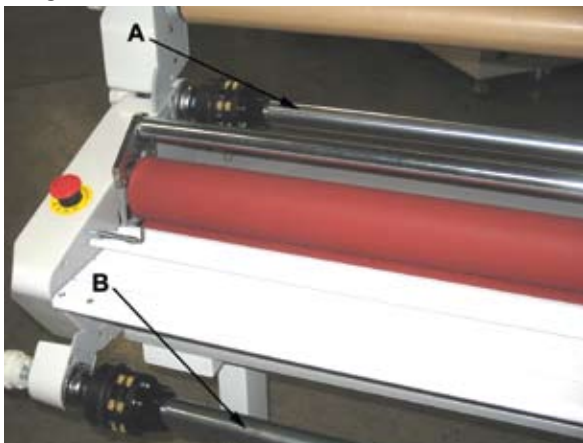
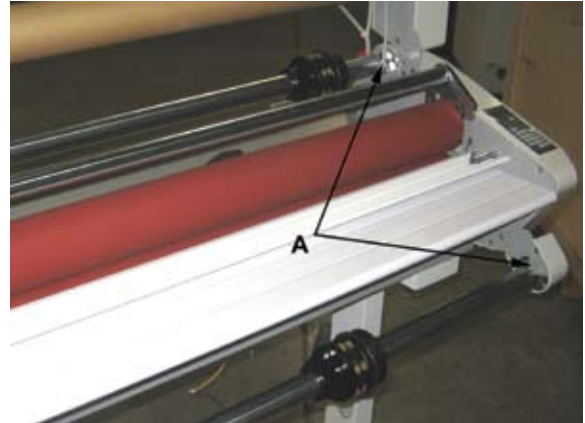

Fig. 6-7. Supply Shafts.
Fig. 6-8. Supply Shaft Cradle End.
3. If the unwind/supply shaft (“Fig. 6-7. Unwind/Supply Shafts.”) is on the machine, grasp the bearing end and lift it out of the cradle (“Fig. 6-8. Supply Shaft Cradle End.”). Then pull the left end out of the brake hub.
3. Insert the hex end of the shaft into its brake hub and then insert the bearing end in its cradle. See “Fig. 6-7. Supply Shafts.” and “Fig. 6-8. Supply Shaft Cradle End.”